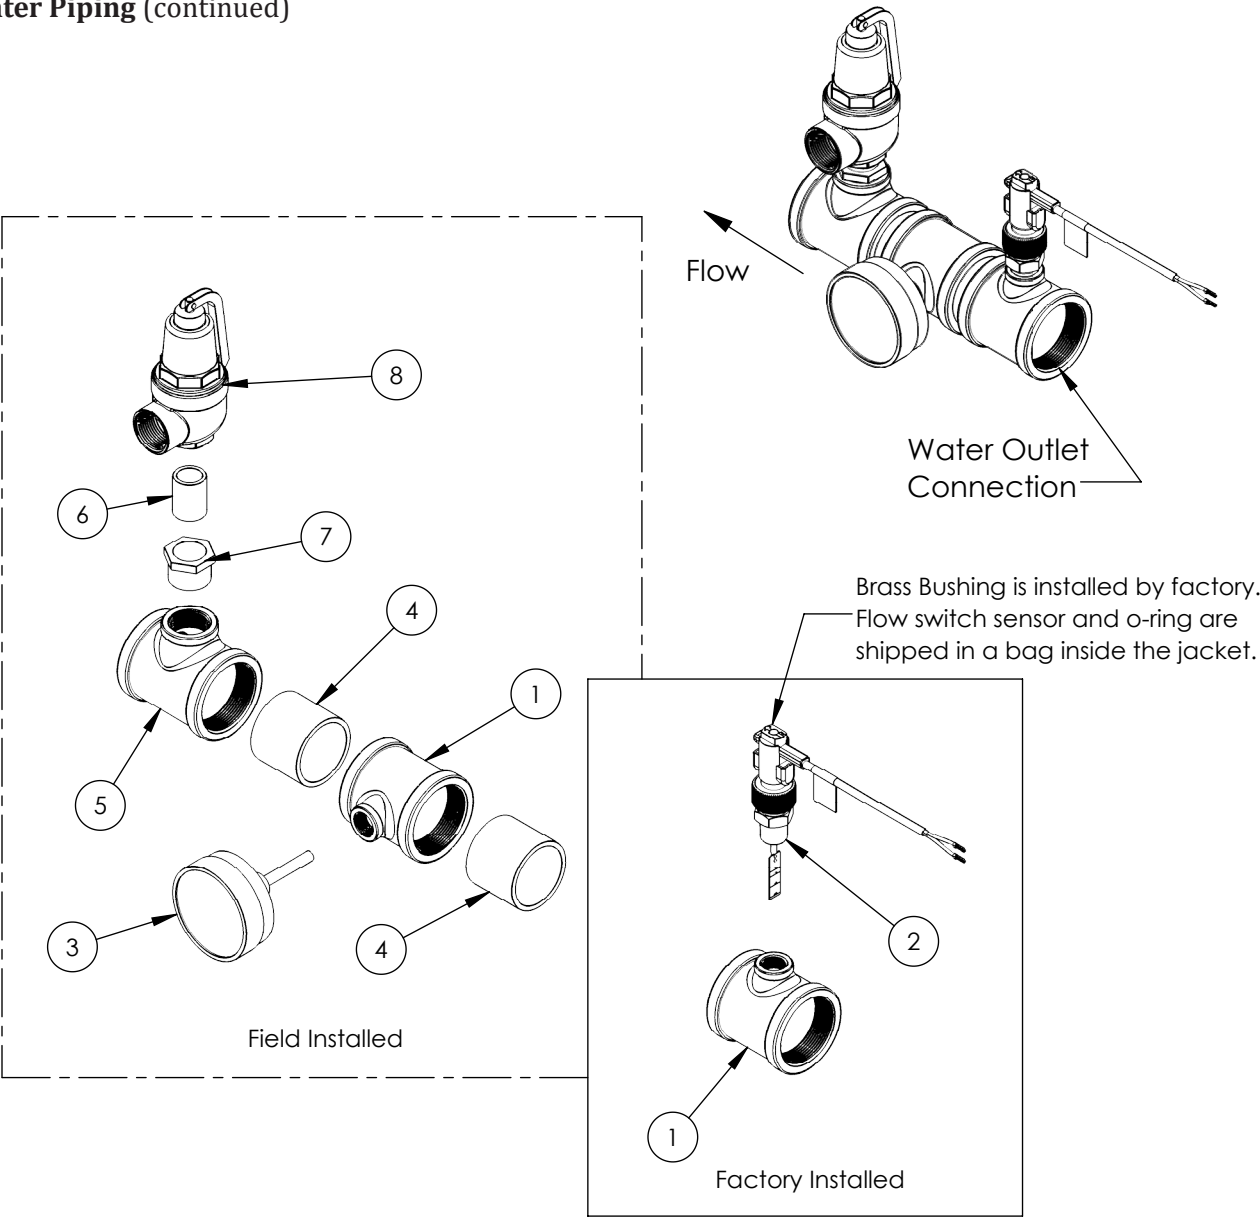

Figure 15: Relief Valve Package Assembly
1. The relief valve, T&P gauge, and required fittings ship loose with the appliance. These parts must be installed to the outlet as shown in Figure 15.